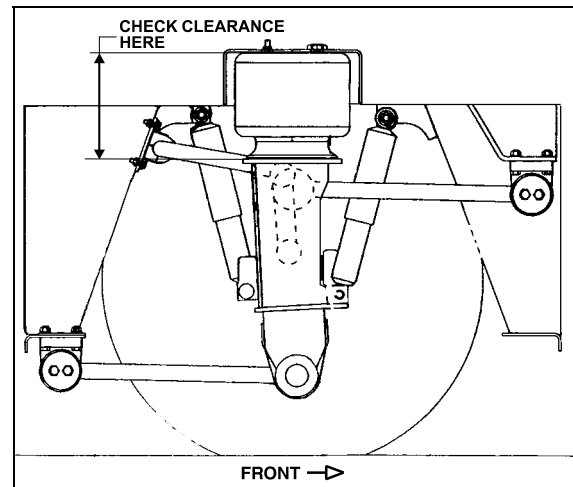

FIGURE 43: TYPICAL AIR SPRING CLEARANCE, FRONT I-BEAM AXLE 16108
1. With the vehicle at normal operating air pressure, check the air spring clearance as illustrated in figure 43. This clearance should be  $12 \pm \frac{1}{4}$ " ( $305 \pm 6$  mm) for the front